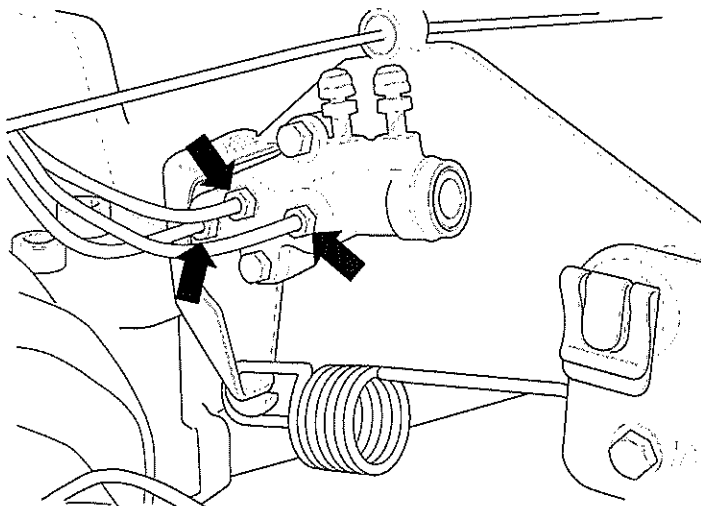

Fig 2 Brake apportioning valve (non ABS variants only)
- 4.4 Disconnect both brake lines at brake power control and seal with rubber caps of bleeder screws (see Fig 2) – non ABS variants only.